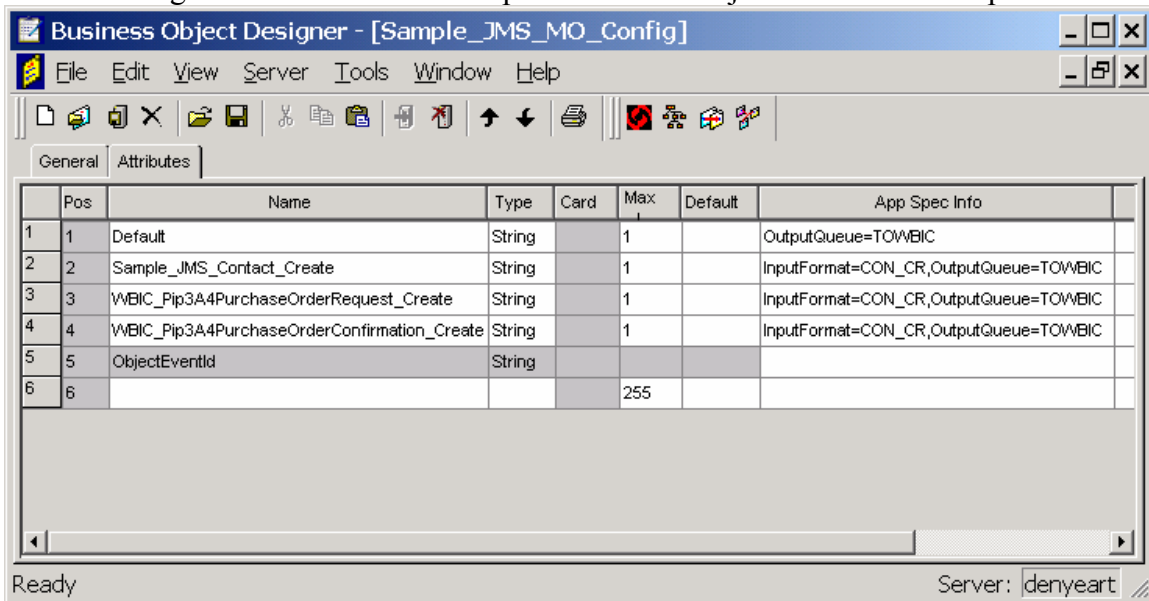

Figure 15. Sample JMS adapter static meta-object
2. Create JMS static and dynamic meta-objects. See Figure 15 for a JMS meta-object sample.